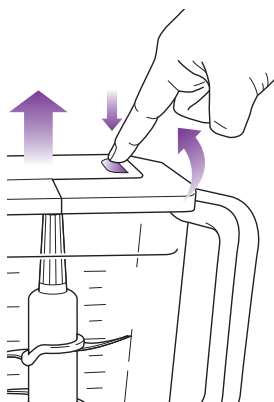

Fig. 6
**7** If the ingredients stick to the side of the pitcher, stop the appliance by pressing the power button (⏻) and wait for the blades to stop turning. Then remove the lid by pressing the release button, lifting the handle up and pulling straight up. (Fig. 6) Use a spatula to dislodge the pieces, replace the lid and continue processing.